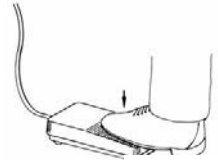

fig. 28
- Press and hold foot switch (fig. 28).